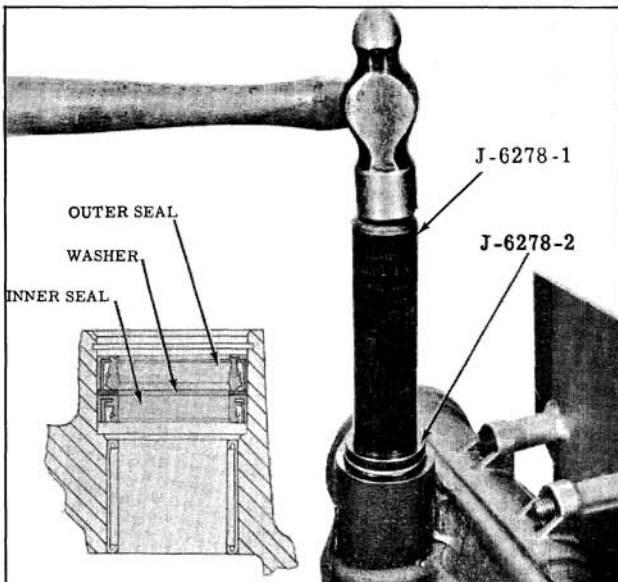

Fig. 8-64 Installing Oil Seals
- b. Drive the seals into the housing until the top of Adapter J-6278-2 is flush with the housing. (Fig. 8-64)
- d. Reinsert Tool J-6278-1 with Adapter J-6278-2 and continue driving the seals until the retaining ring seats in its groove (inset, Fig. 8-64), then remove the tool and adapter.